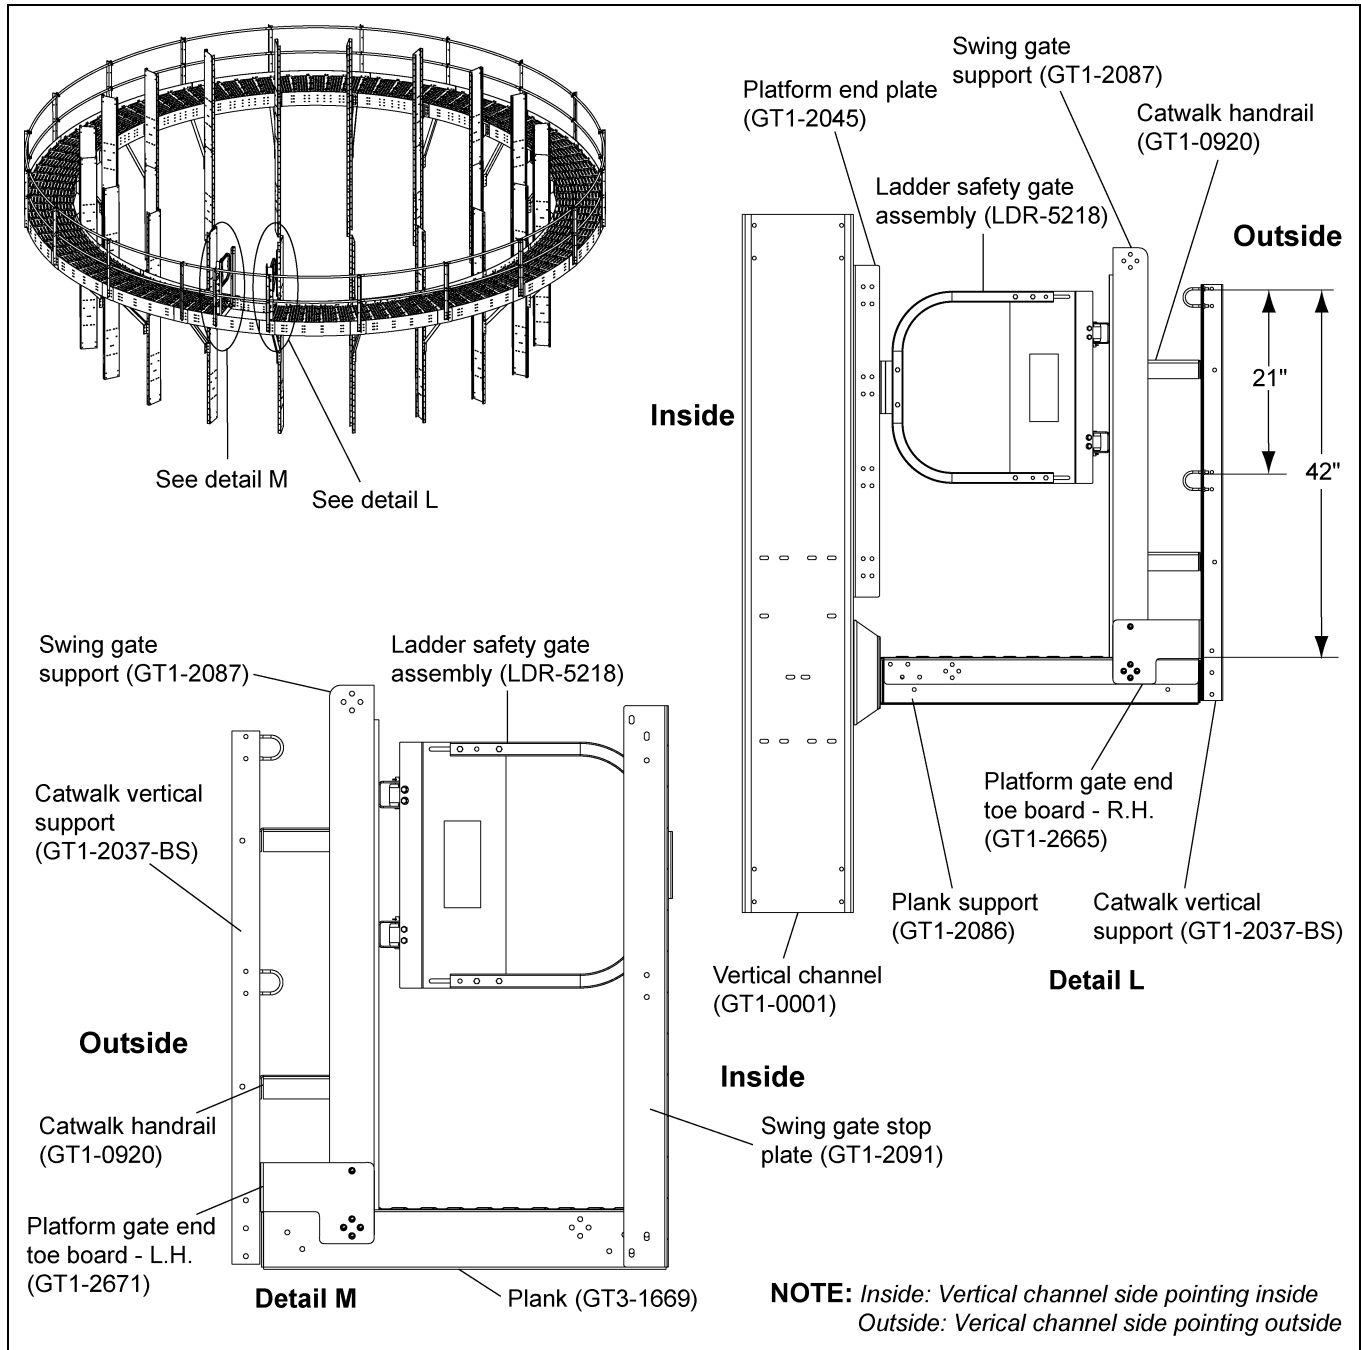

Figure 4Y
1. Install the ladder safety gate assembly (LDR-5218) to the swing gate support (GT1-2087) using 3/8"-16 x 1" JS grade 8 or grade 8.2 bolts (S-7485) and 3/8"-16 ZN grade 5 nuts (S-968). (See detail L in Figure 4Y.)
2. Install the ladder safety gate (LDR-5218) to the swing gate support (GT1-2087) and attach the stop plate (GT1-2091) to the ladder opening toe board (GT1-2089) and the plank (GT3-1669) using 3/8"-16 x 1" JS grade 8 or grade 8.2 bolts (S-7485) and 3/8"-16 ZN grade 5 nuts (S-968). (See detail M in Figure 4Y.) The distance between the plank and handrail is 42".